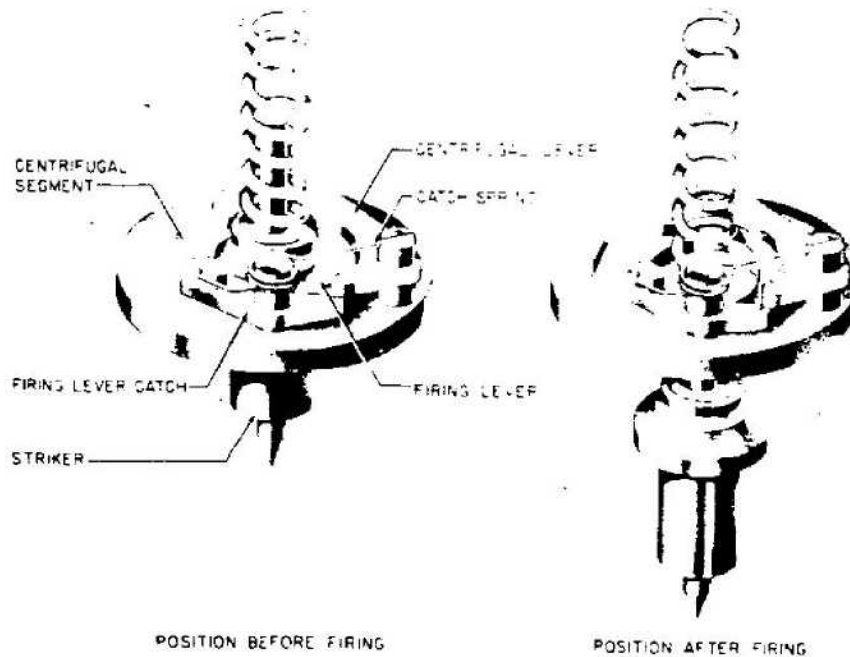

Figure 551—Z. Zerl. Fg.
**EMPLOYMENT:** Nose fuze for 20-mm A. A. projectile with self-destructing arrangement. (See fig. 551.)